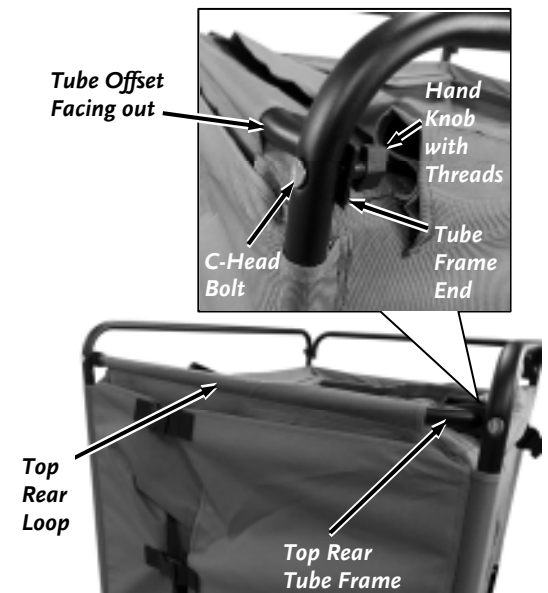

Figure 35
17. Slide the Top Rear Tube Frame through the Enclosure Loop and secure to the Side Tube Frames with two C-Head Bolts and Hand Knobs with threads (**Figure 35**).